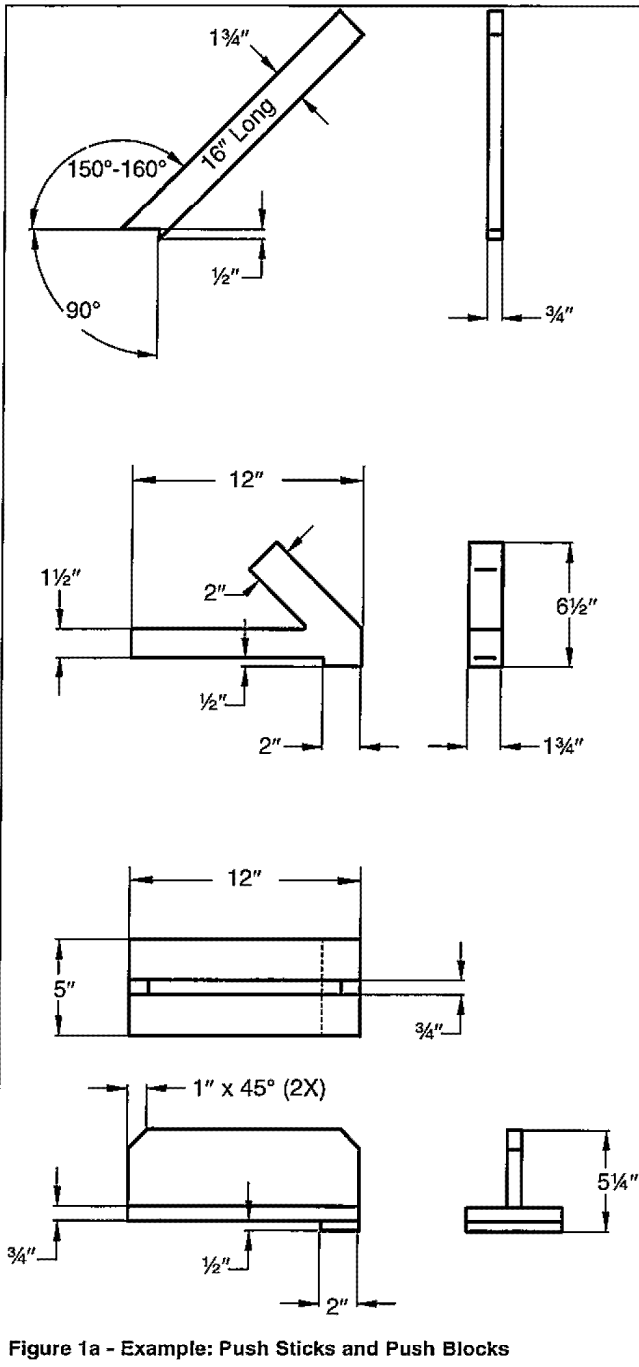

Figure 1a - Example: Push Sticks and Push Blocks
- During rip and rip-type cuts, workpiece must be held down on table and against fence with a push stick, push block, or featherboards, as applicable (see Figures 1a and 1b, page 4).